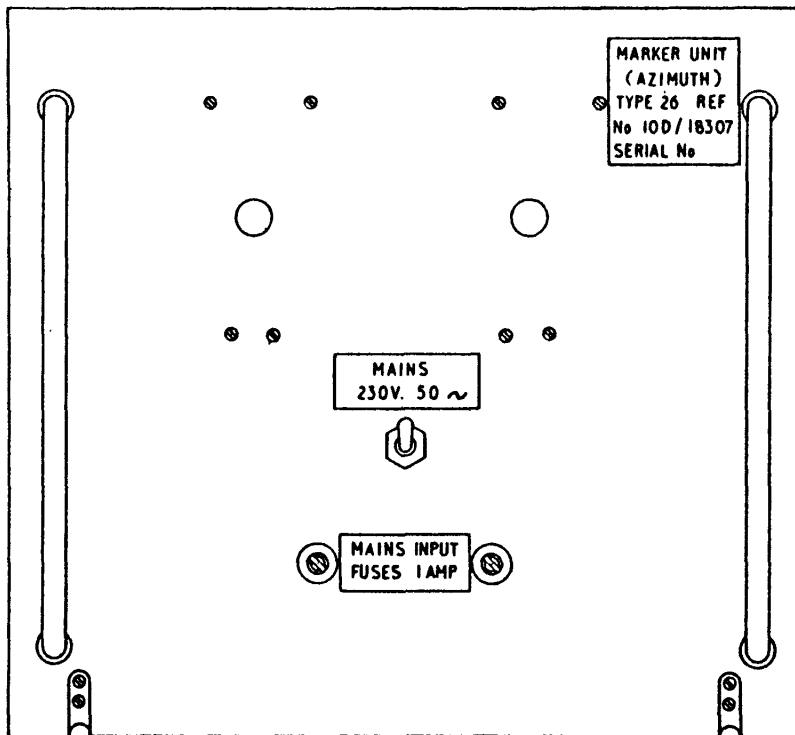
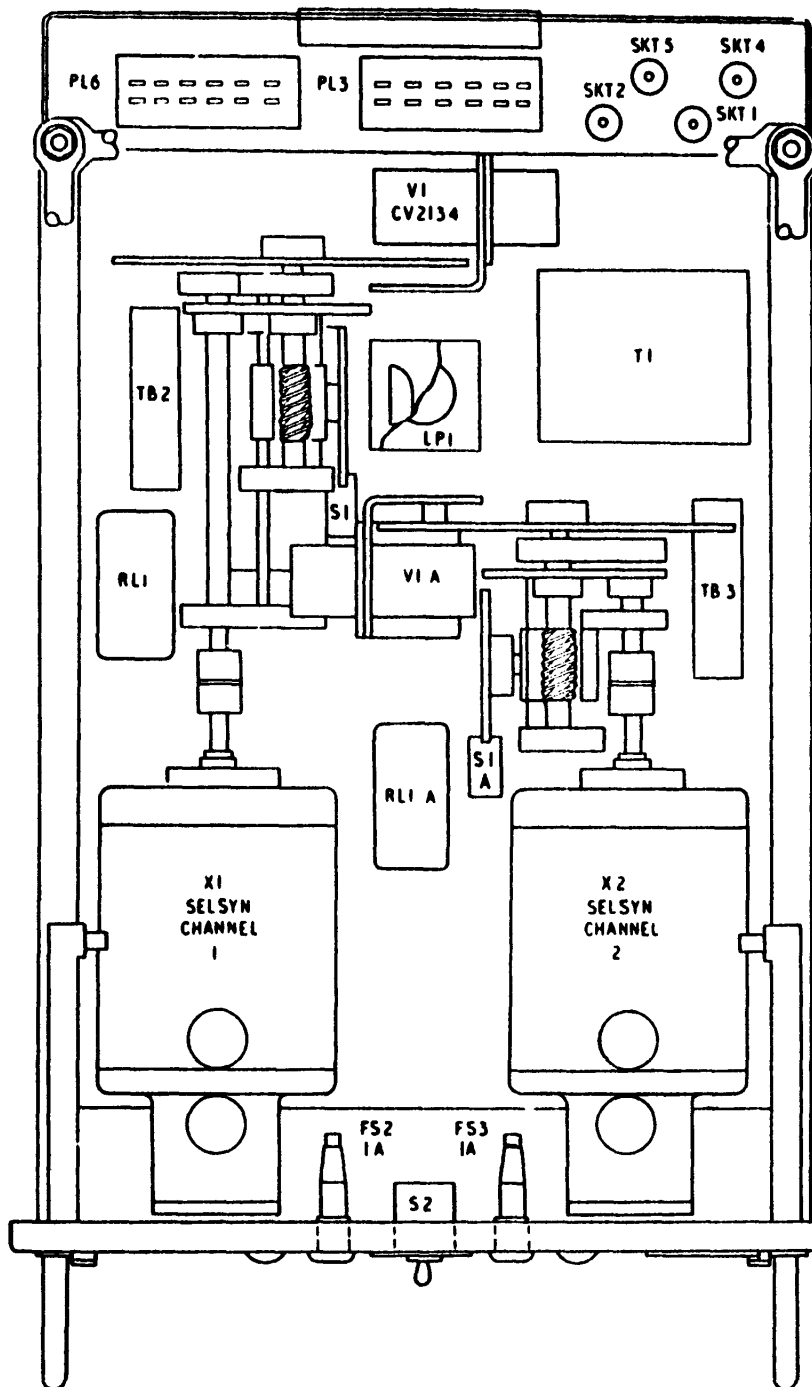

Fig. 1. Marker unit (azimuth) Type 26—front panel
Fig. 2. Marker unit (azimuth) Type 26—plan
2. A front panel view of the marker unit is shown in fig. 1, and a plan view is given in fig. 2. The circuit is shown in fig. 3.